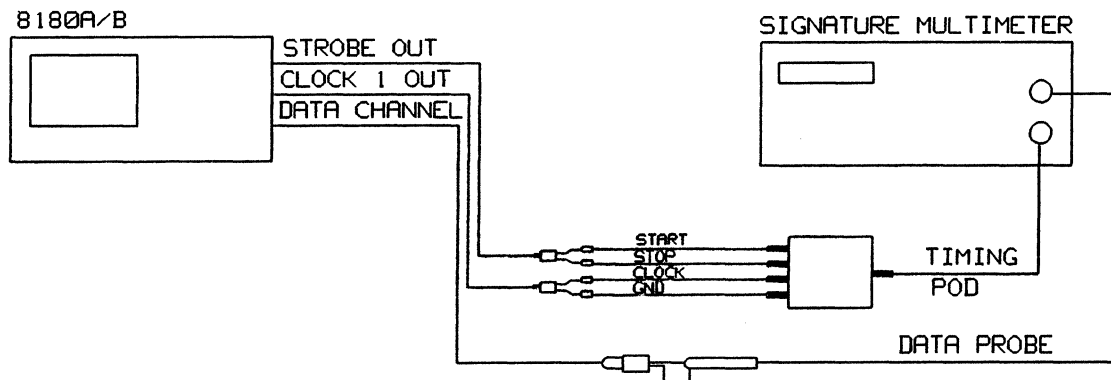

Figure 6-8. Test Setup for the 20 MHz Memory Test
11. Connect the equipment as shown in Figure 6-8 and press RUN.